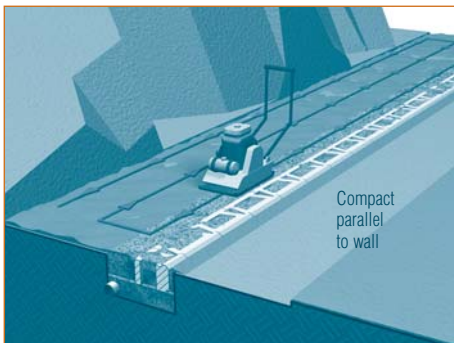

Figure 7: Compact Drainage Material & Backfill Soils
- Use a plate compactor to consolidate the aggregate in the block cores and lock the base course in place. The first pass of the plate compactor should be directly over the top of the block cores (Figure 7).
- After running the plate compactor on top of the base course and drain field, compact the backfill material immediately behind the wall. Compact in a path parallel to the wall, working from the front of the wall to the back of the backfill material (Figure 7). Compact in 200mm lifts. Use only light weight equipment within 1.2m of the wall face.